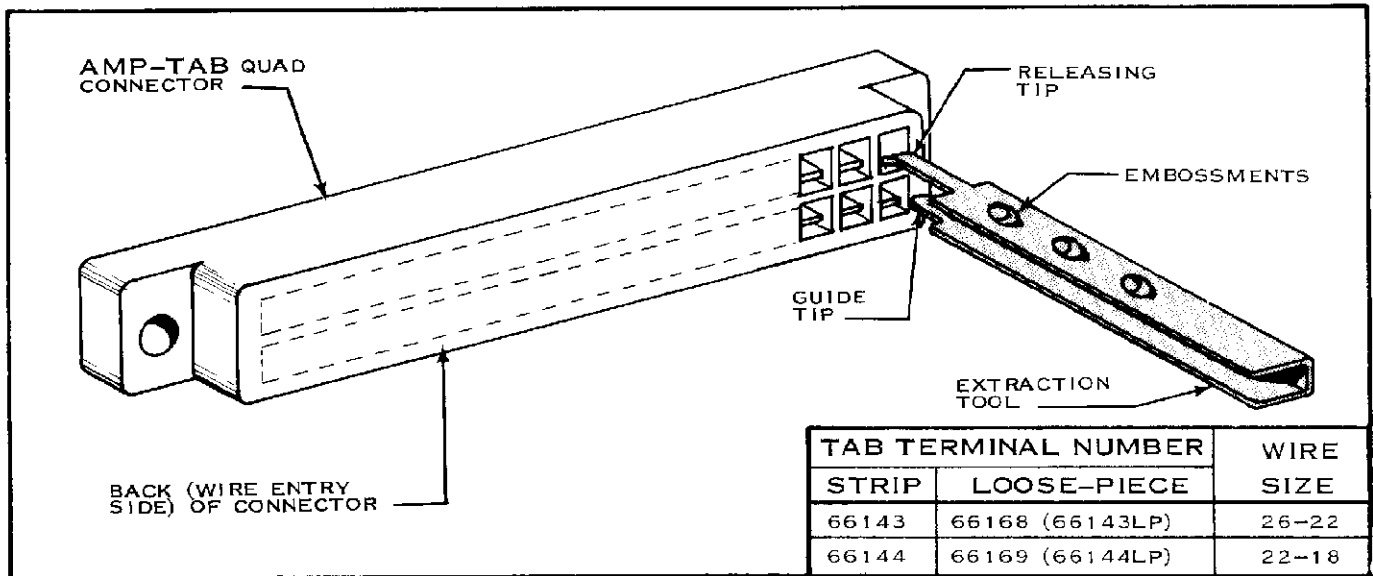

FIG. 1
1. This Tool (see Figure 1) is used to extract AMP-TAB Male (Tab) Terminals from AMP-TAB Quad (4-Tab) Connectors. Read these instructions carefully before using the Tool.